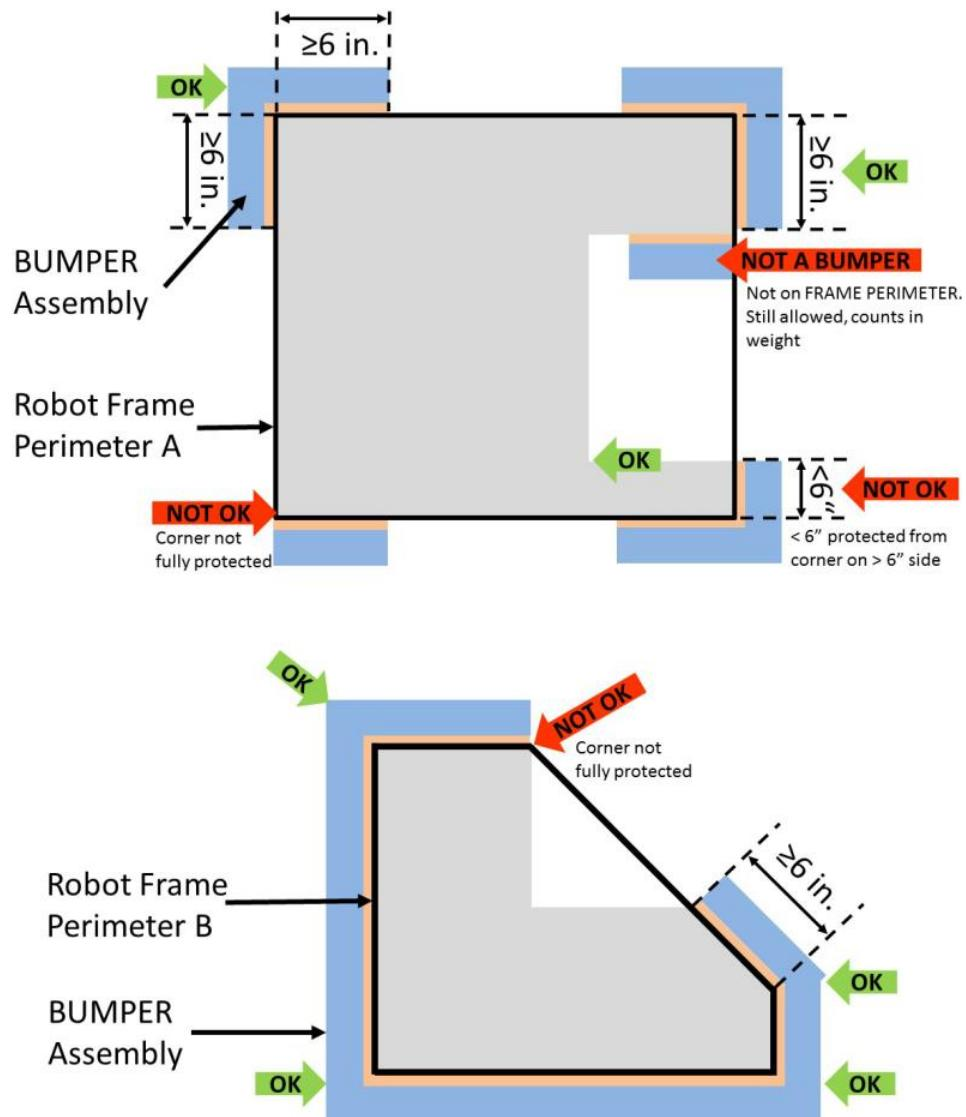

Figure 10-2 BUMPER corner examples
- R24.** ROBOTS are required to use BUMPERS to protect all outside corners of the FRAME PERIMETER. For adequate protection, at least 6 in. (~16 cm) of BUMPER must be placed on each side of each outside corner (see Figure 10-2 BUMPER corner examples) and must extend to within $\frac{1}{4}$ in. (~6
The dimension defined in R24 is measured along the FRAME PERIMETER. The portion of the BUMPER that extends beyond the corner of the FRAME PERIMETER is not included in the 6 in. (~16 cm) requirement. See Figure 10-2.